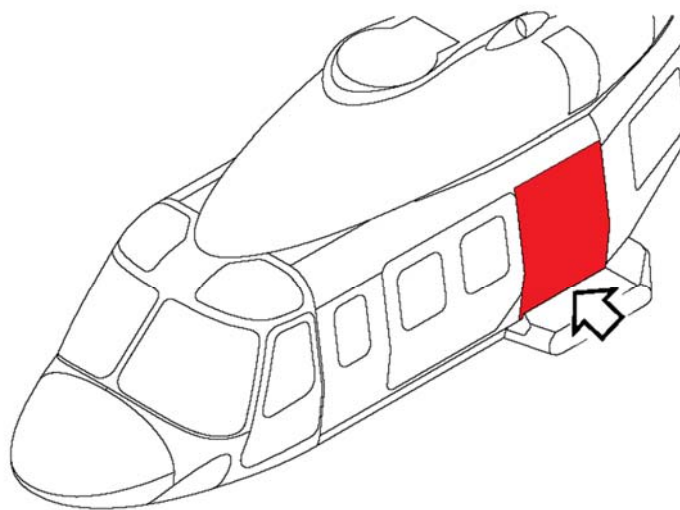

Figure 1 – Work Area - Left Panel Assembly – Opposite for the right side.
1. Get access to the Work Area (Figure 1):